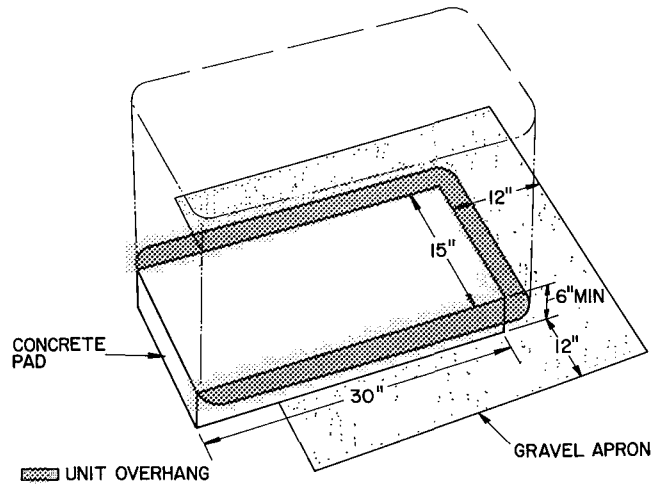

Fig. 2 – Concrete Pad Dimensions
**Step 4 – On the Ground: Mount Unit on a Solid, Level Concrete Pad.** See Fig. 2 for pad dimensions. Position unit so that coil drainage holes in base pan overhang the pad. Make sure pad does not obstruct drainage holes (holes drain water during heating and defrost cycles). Unit can be attached to pad with mastic adhesive or by drilling holes in base pan for 1/4-in. mounting bolts.